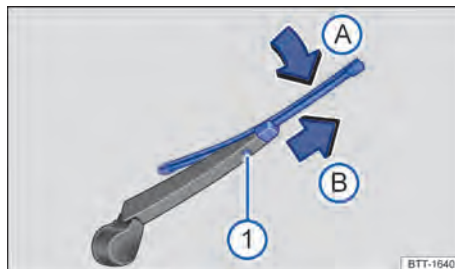

Fig. 170 At the rear of the vehicle: Changing the wiper blade for the rear window.
① Release button.
2. Press and hold the release button → Fig. 170 ①.
3. Tilt the wiper blade in the direction of the wiper arm → Fig. 170 A and pull it off in the direction of the arrow B at the same time. You may need to use some force to do this.
4. Insert a new wiper blade with the same length and design onto the wiper arm in the opposite direction of the arrow → Fig. 170 B and push it on until it engages. The wiper blade must be in folded-down position to do this A.